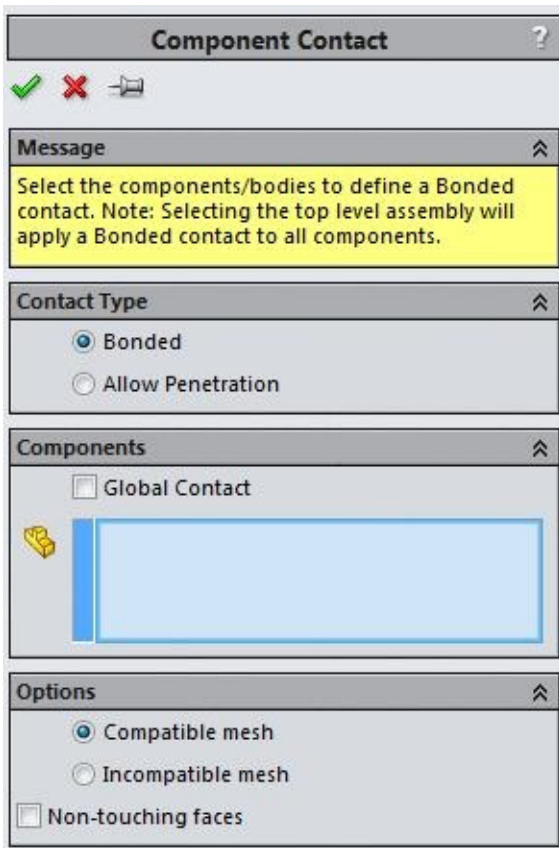

Figure-19. Component Contact PropertyManager
- The **Component Contact PropertyManager** will be displayed as shown in Figure-19.